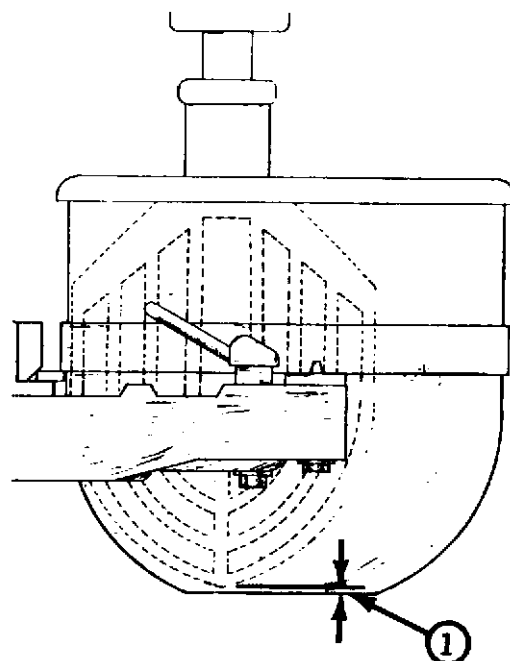

Fig. 7-1
- (2) Check the clearance between the bottom of the beater and the bowl (1, Fig. 7-1). This clearance should be no more than $\frac{3}{32}$ ".